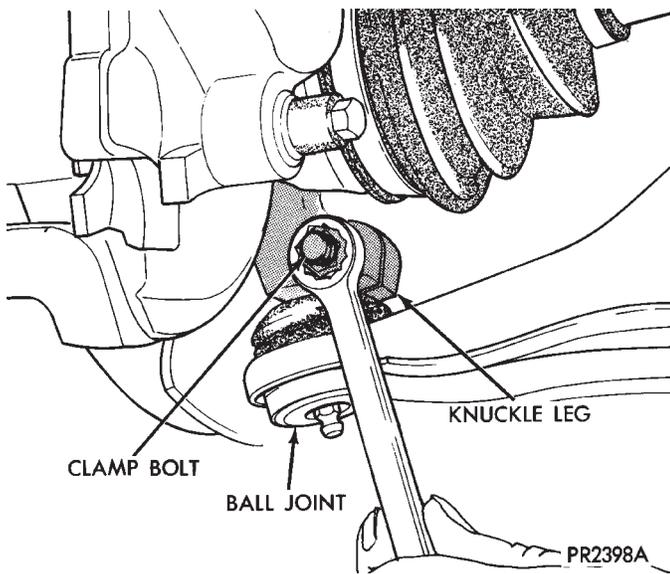

Fig. 7 Remove Ball Joint to Steering Knuckle Clamp Bolt
(2) Remove clamp bolt securing ball joint stud into steering knuckle (Fig. 7).